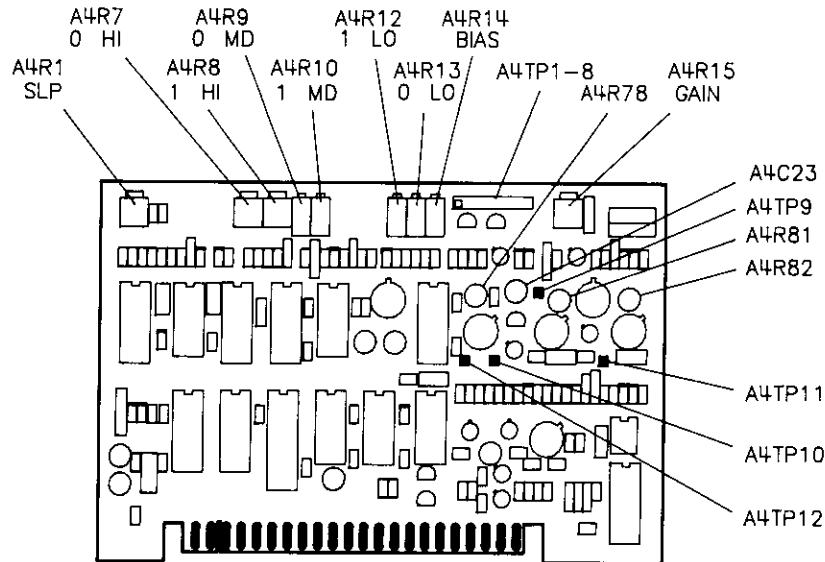

Figure 5-30. ALC Adjustment Locations
2. Float the ground on the digital voltmeter and measure the voltage between A4TP9 and A4TP10. Refer to Figure 5-30 for adjustment locations. Adjust A4R81 (OFS 1) for  $0.000 \pm 0.001$  VDC.